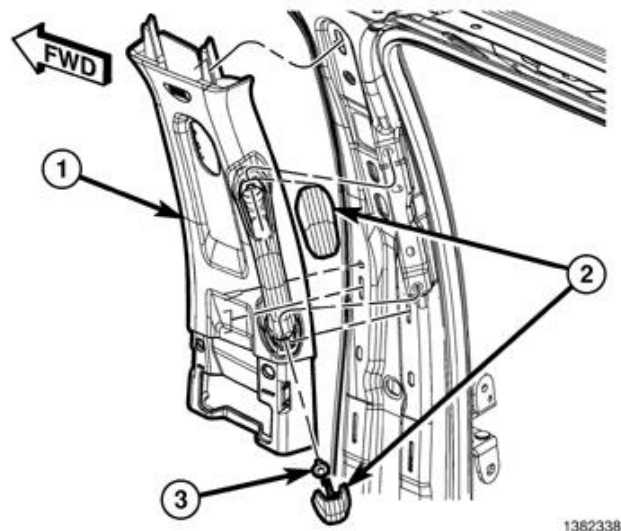

Figure 72 – B-Pillar Upper Trim Panel
8. On the B-pillar, use a small flat-bladed tool to carefully open the two fastener covers (2) located on the grab handle (Figure 72).
9. Remove the two bolts (3) that secure the grab handle to the B-pillar (Figure 72).
10. Using a trim stick C-4755 or equivalent, release the retaining clips that secure the B-pillar upper trim panel (1) then position the trim panel out of the way. It is not necessary to remove the seat belt from the trim panel (Figure 72).